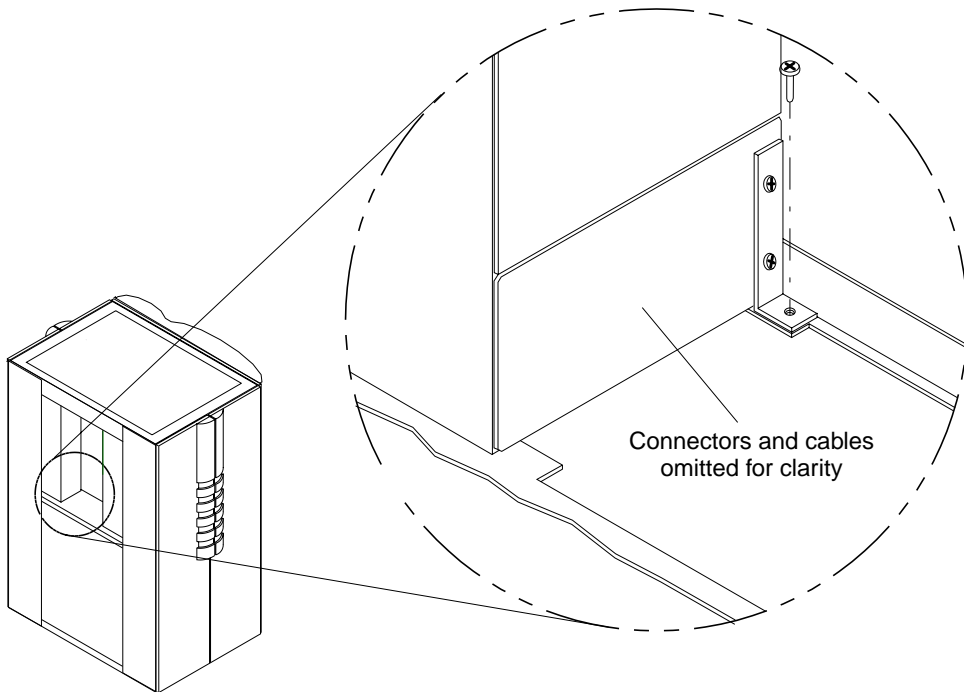

FIGURE 5-8 Installing the Optional Power Shelf Shipping Strap Attachment Screws
11. **Remove the side panel of the processor cabinet to get access to the shipping straps on the dual power option power shelves (if installed). Install M4x10 pan head screws in each of the shipping straps that attach to the horizontal rails as shown in FIGURE 5-8.**